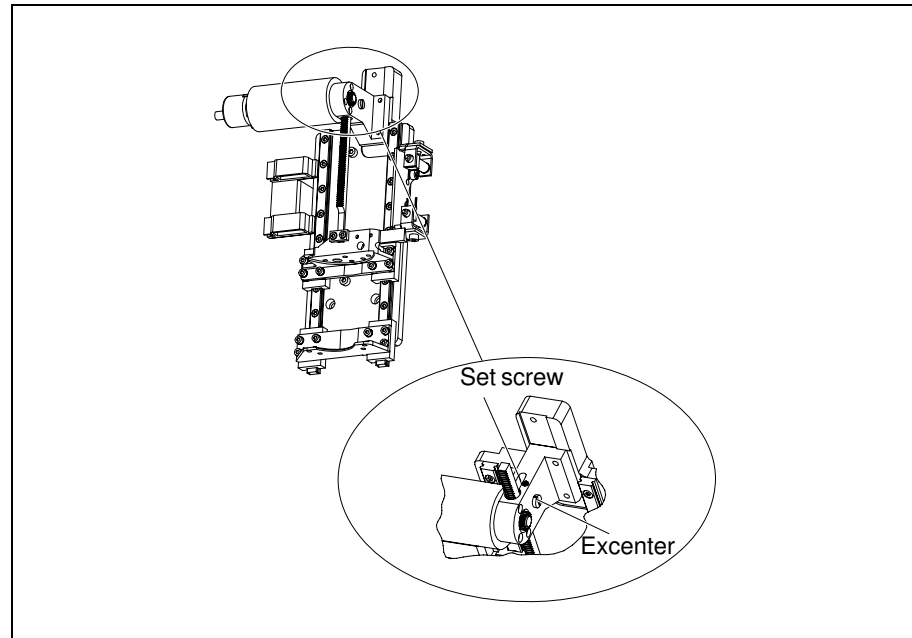

Figure 6-4. Adjusting the cog play.
1. Carefully loosen the locking screw (see Figure 6-4).
3. Adjust the cog play by turning the excenter screw (see Figure 6-4).